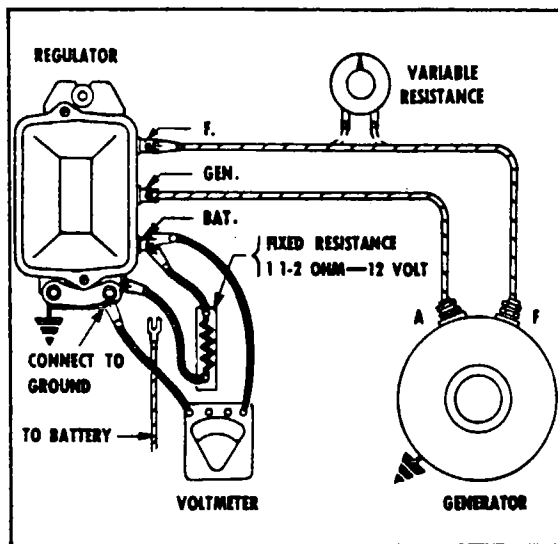

Figure 11-9. Checking Voltage Setting Fixed Resistance Method
b. Voltage Setting: There are two ways to check the voltage setting; the fixed resistance method and the variable resistance method. (Refer to Figures 11-9 and 11-10.)
(a) Connect a fixed resistance between the battery terminal and ground as shown in Figure 11-9 after disconnecting the battery lead from the
Method 2: Connect a variable resistance into the field circuit as in Figure 11-9. Turn out all resistance. Operate generator at specified speed. Slowly increase (turn in) resistance until generator voltage is reduced to 4 volts. Turn out all resistance again and note voltage setting (with voltmeter connected as in Figure 11-9). Regulator cover must be in place.
- (a) Connect ammeter and 1/4 ohm variable resistor in series with the battery as shown in Figure 11-9.
It is very important that the variable resistance be connected at the "BAT" terminal as shown in Figure 11-9 rather than at the "GEN" terminal even though these terminals are in the same circuit. An examination of the wiring diagram, Figure 11-4, will show that regulation begins at the point where the shunt windings are connected to the series circuit. Any small resistance added to the circuit between the generator and this point will simply be offset by a rise in generator voltage without affecting the output shown at the ammeter.